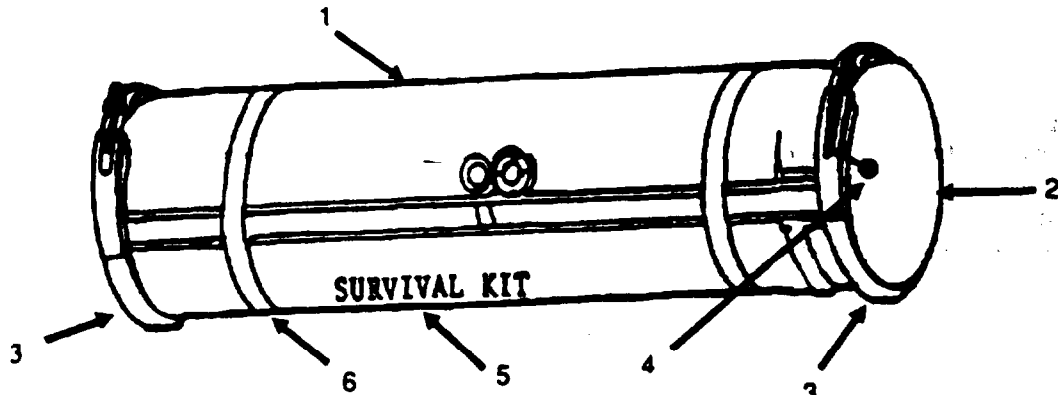

Figure 1-2. AMSS AH-1 TOW Tube Container.
- e. The AH-1, Survival kit is contained in an expended TOW missile tube (1, Figure 1-2). The ends are capped by locally fabricated metal discs (2) secured to the container ends with Marmon clamps (3). A lead-sealed safety wire (4) is attached to the forward marmon clamp. "SURVIVAL KIT" is stenciled to the outboard side (5) of the container. A chemical contamination detector (6), used only during wartime conditions and in war zone areas, is attached.